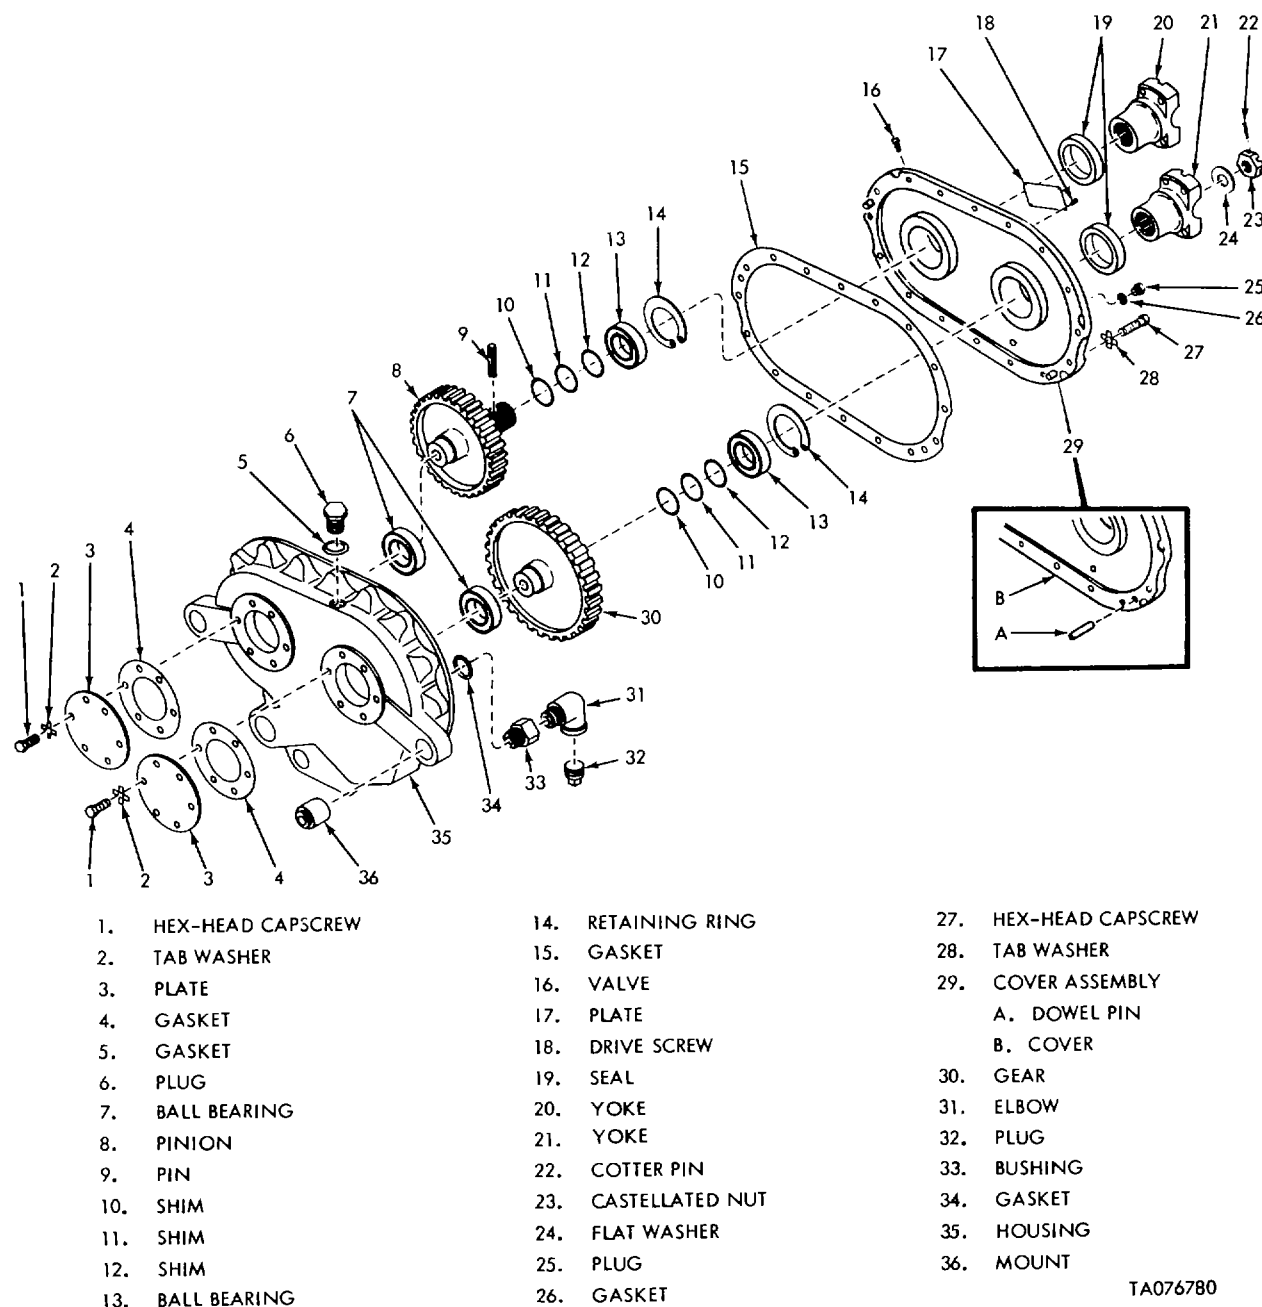

Figure 4-9. Transfer Transmission Assembly Disassembly
- (d) Remove three screws, washers, and nuts which secure transfer transmission assembly (8) to loader. Remove transfer transmission assembly.
- (2) Disassembly (fig. 4-9). The following special tools are required to perform the disassembly and assembly procedures:
(1) *Disassembly (fig. 4-9)*. The following special tools are required to perform the disassembly procedures:
Key numbers in parentheses () in steps (a) through (f) refer to figure 4-9.